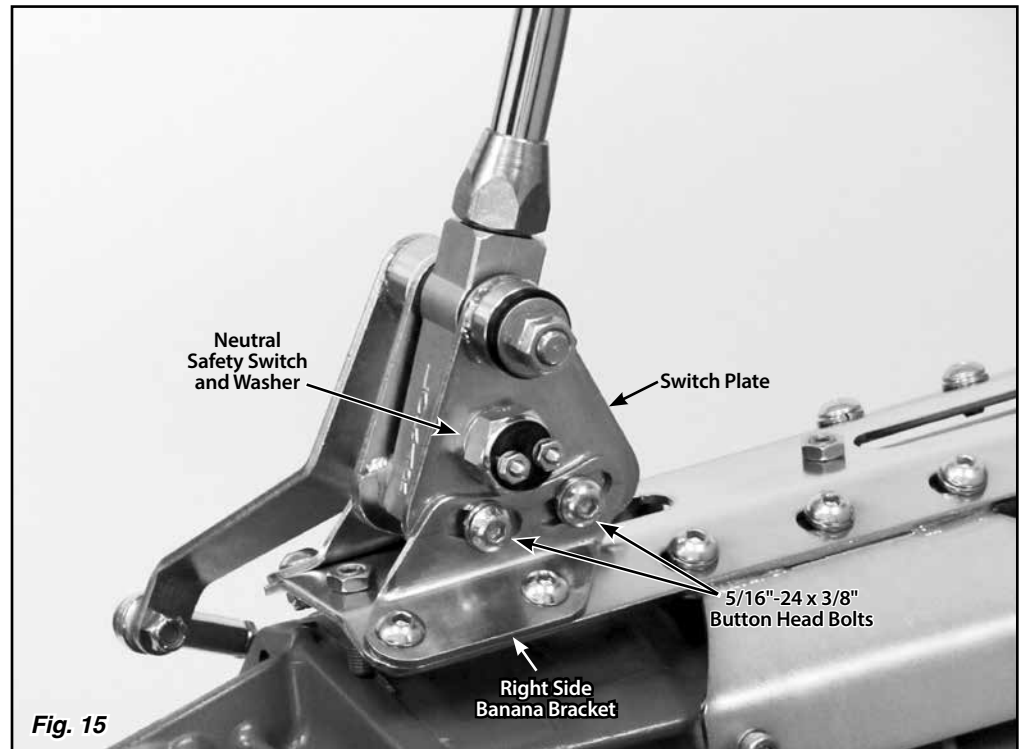

Fig. 15
Step 20: Remove the neutral safety switch and washer from the switch plate on the right side of the shifter assembly using a 7/8" wrench or socket. Fig. 15
Step 22: Put the shifter lever into the Reverse position. Reposition the switch plate so that the hole in the switch plate lines up with the center groove in the shifter body. **Fig. 15** Screw the provided aluminum adjuster plug into the neutral safety switch opening. Wiggling the switch plate slightly forward and back while you are screwing the aluminum adjuster plug in will get the shifter body centered on the adjuster plug. **Fig. 16**